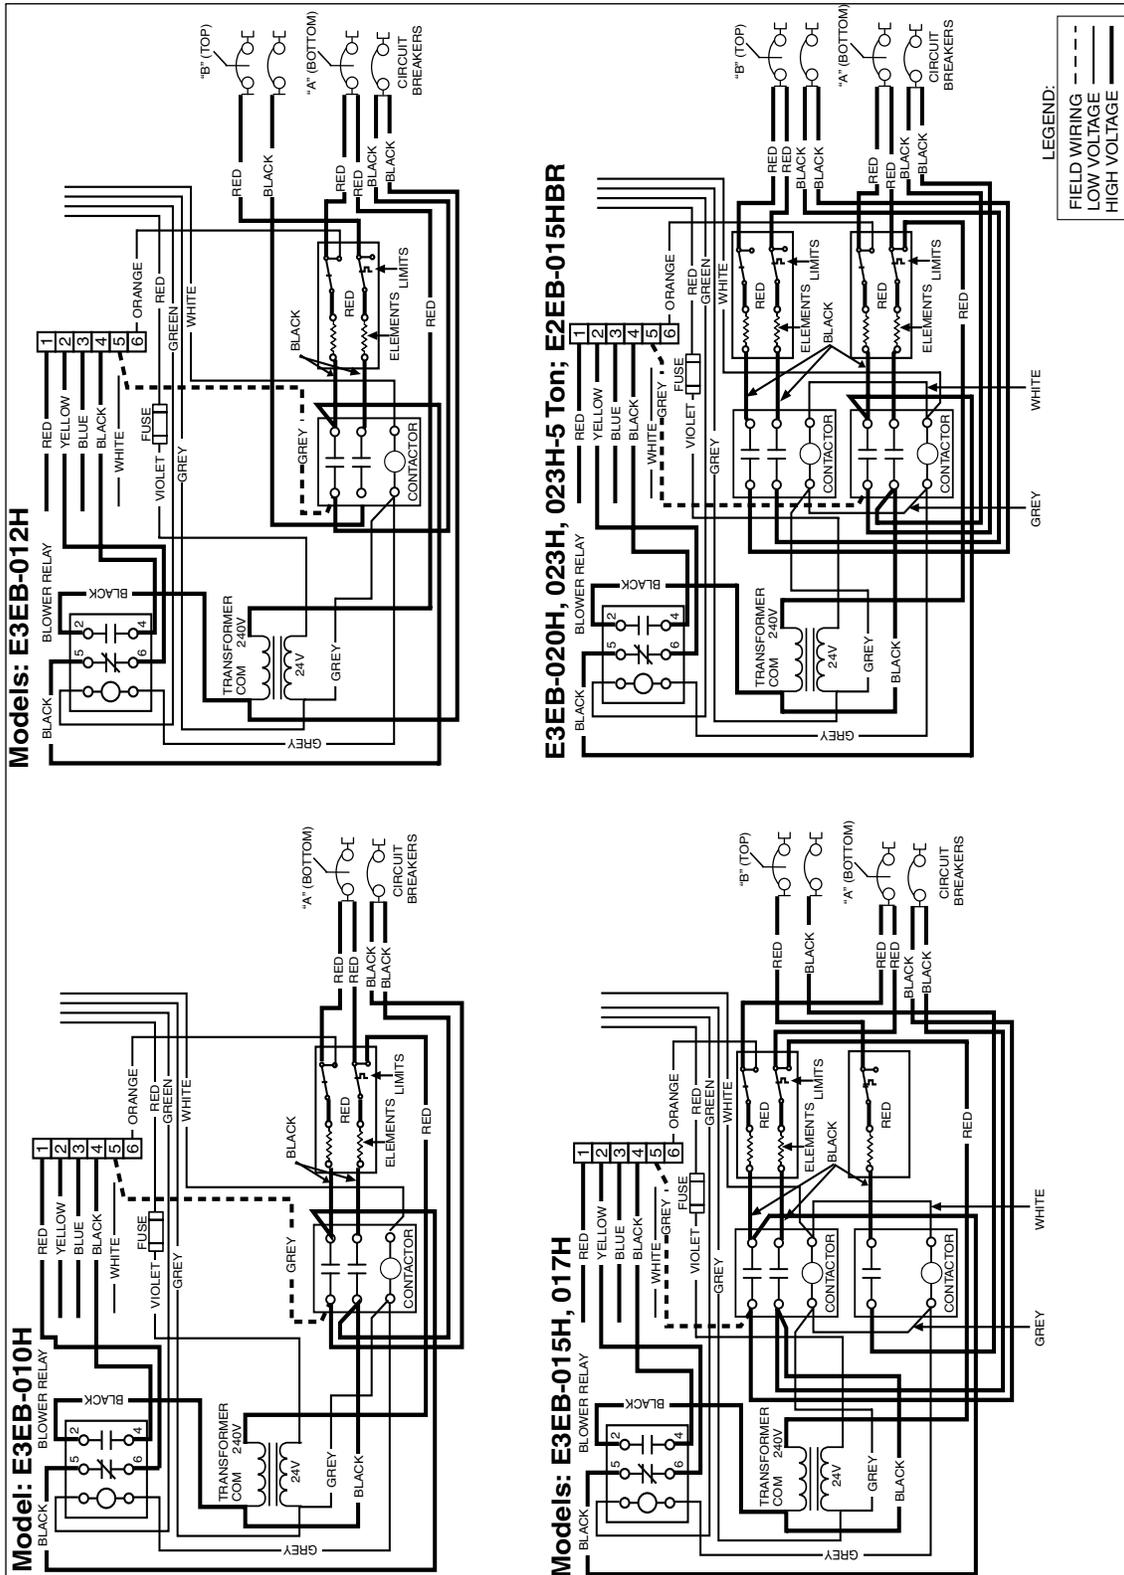

Figure 2. Wiring Diagrams
6. For E3EB furnaces only, obtain the grey wire supplied with the kit and install it according to the wiring diagrams in Figure 2. The socket termination will be installed into cavity five of the blower plug in the control panel and the .25" receptacle will be installed on the open contactor termination referenced in Figure 2. The dashed line represents the field installed wire.